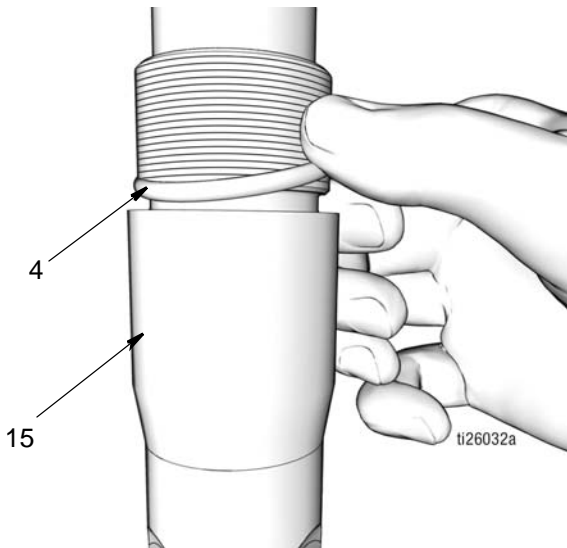

FIG. 44
- b. Apply a thin layer of grease to o-ring (4). Install o-ring around the outlet check valve (15) (FIG. 44).